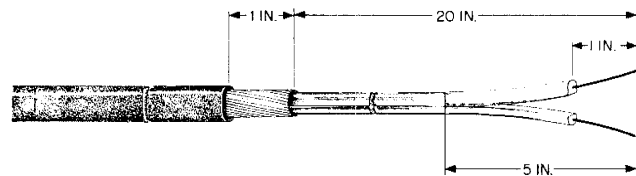

Fig. 4—Preparation of D Underground Wire for D Cable Closure
**3.10** To join D Underground Wire directly to a cable conductor in a D Cable Closure, prepare the wire as shown in Fig. 4.